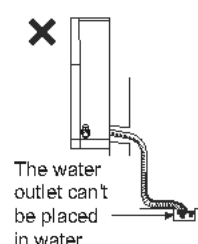

Fig.25
3. The water outlet can't be placed in water in order to drain smoothly.(As show in Fig.25)